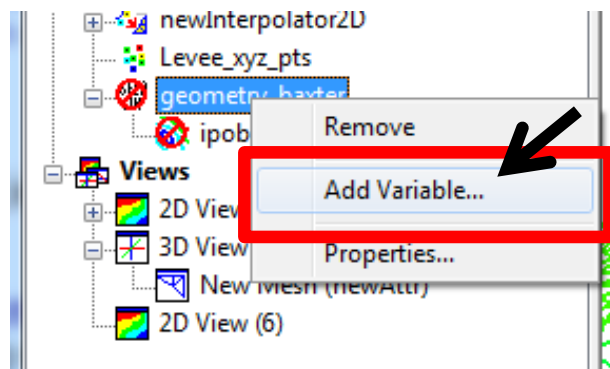

Figure 47: Right-click the geometry object and select **Add Variable**
Step 2 , add the bathymetric mesh as a **New Variable** specified as **BOTTOM** as shown in Figures 47 and 48.